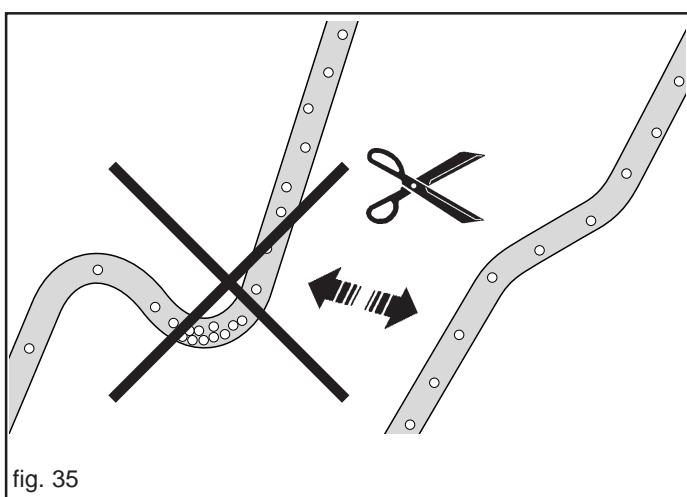

fig. 35
- 3) The machine in the correct operating position, check the length of the descent pipes: while the machine is operating, it is important to avoid folds and bends in the pipes which can lead to their breaking. Adapt them, if necessary, by varying the length as shown in Figure 35.
The manufacturer provides a 150 mm diameter rigid tube for fitting to the tractor (A, Fig. 37). Connect both ends of the rigid tube to the machinery mounted back and front with the flexible tube (B, Fig. 37). Avoid creases and folds that could lead to breakage (Fig. 35).